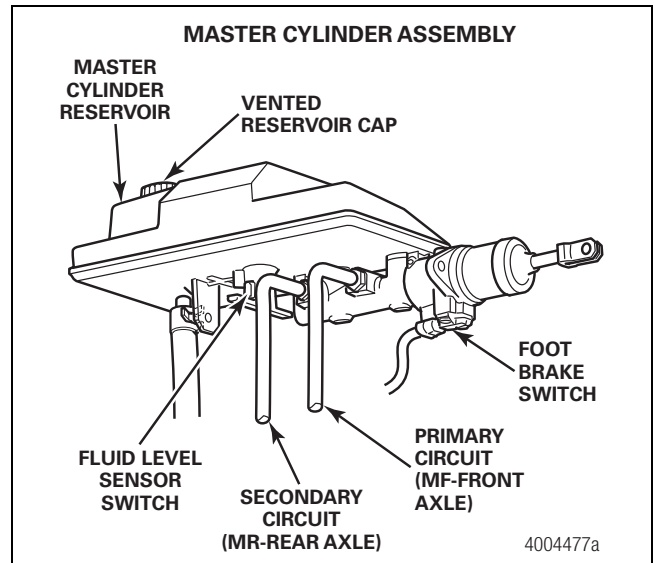

Figure 9
- Connect the foot brake switch on the master cylinder and the fluid level sensor switch under the reservoir. Figure 9.